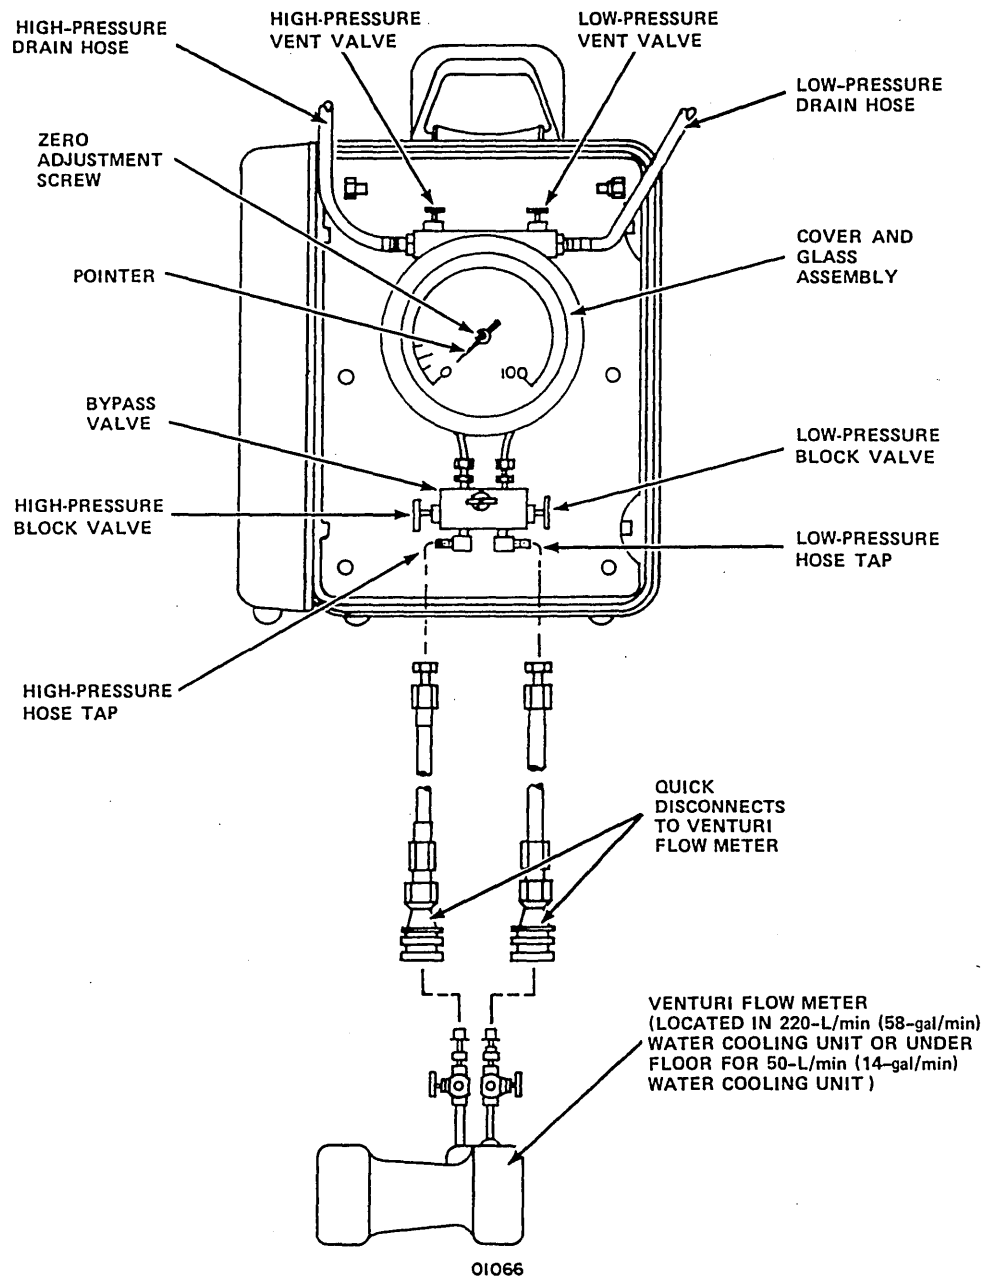

Figure 3-34. Differential Pressure Gauge
- ___ 1. Prepare differential pressure gauge (figure 3-34) for checking site flow rate as follows: